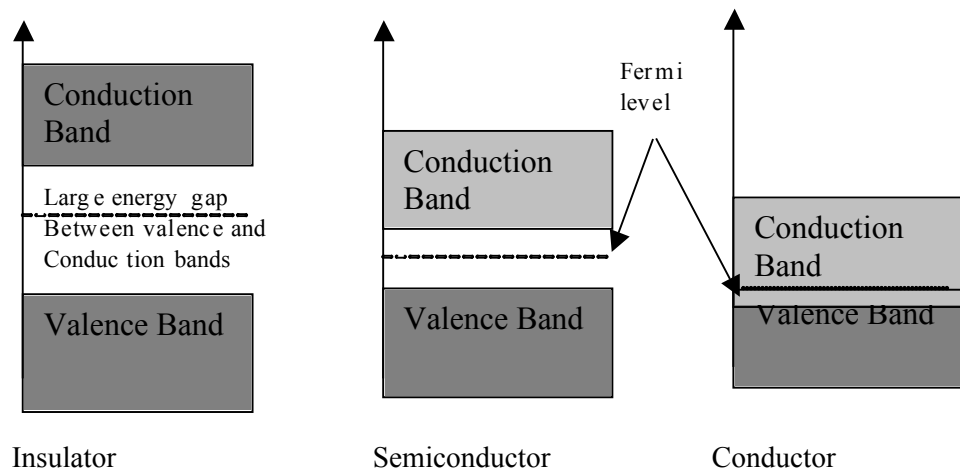

Figure 4.1: Schematic diagrams of energy bands
Fig. 4.1 represents schematic diagrams of energy bands in solid insulator, semiconductor and conductor. Study the three diagrams carefully and note the relative positions of *conduction band*, *valence band* and *energy gap*.
2. (i) Use the diagram in Fig. 4.1 to compare the three materials.